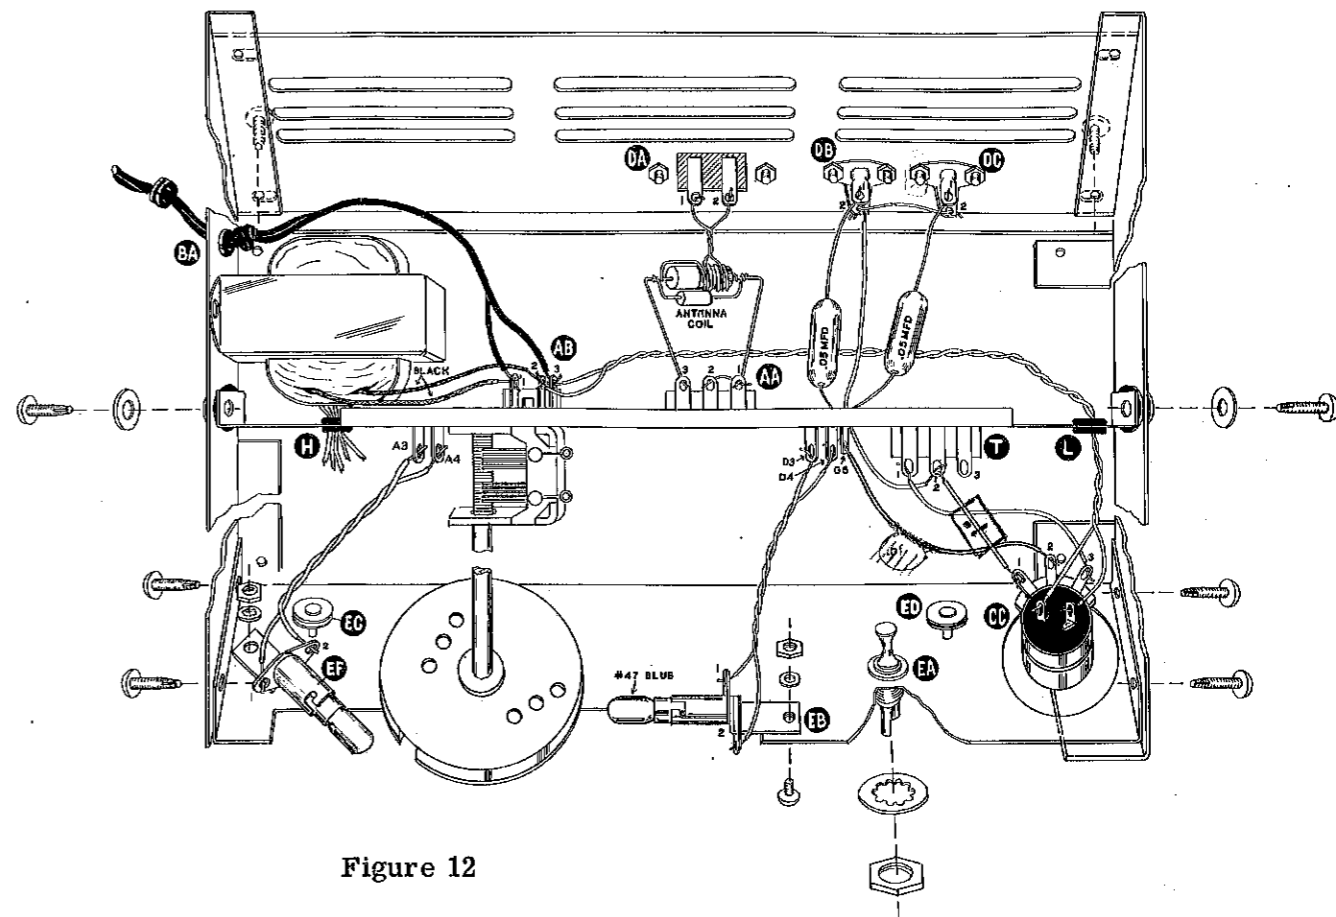
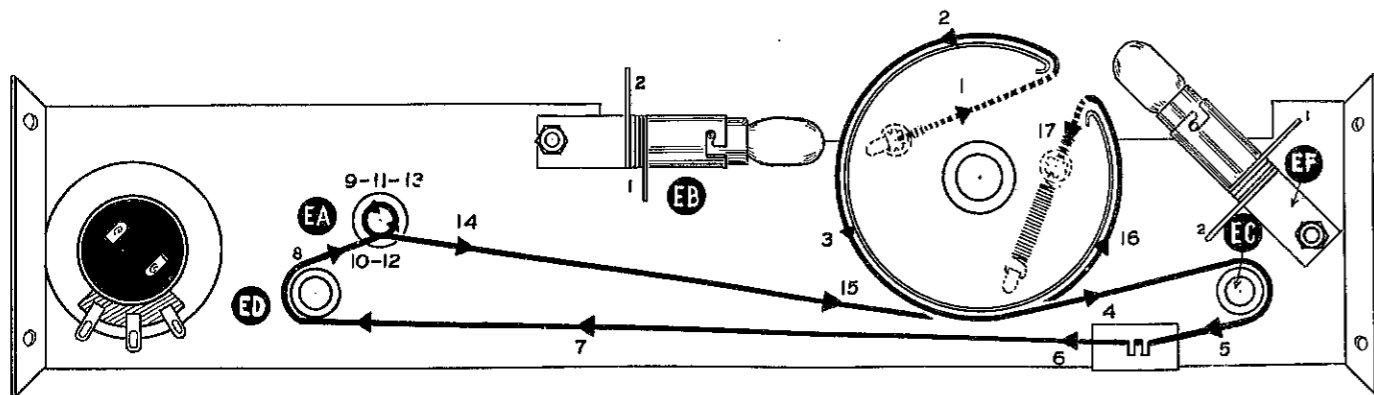

Figure 12
Figure 17
- (✓) Mount bracket B on the left or tuning condenser end of the chassis, with the transformer fitting over the chassis top as shown in Figure 12. Place a 9/16" washer on a 6-32 self-tapping screw and insert through the spacer previously installed in grommet BH. Line the screw up with the top chassis opening and secure the assembly. Before completely tightening the screw, start the second self-tapping screw and washer through the bottom opening BJ. Now tighten both screws.
- (✓) Install two 7/16" grommets in the large openings in the right hand bracket and insert the 3/16" metal spacers in each grommet. Install the bracket on the right hand end of the chassis in the same fashion. The large hole should be forward. See Figure 12.
- (✓) Place the red, red-yellow and green power transformer leads through grommet H on the chassis. Cut one green lead to length sufficient to reach socket A3, strip and tin the lead and connect it to A3 (NS).
- (✓) In the same fashion, connect the remaining green lead to socket A4 (NS).
- (✓) Cut two wires to a length of 3 1/2". Strip all four ends and twist together. At one end of the twisted pair, connect one lead to socket A3 (S) (3) and the other to A4 (S) (3).
- (✓) Connect the red-yellow lead to terminal strip M2 (S) (1).
- (✓) Connect a red lead to socket A1 (S) (1). Dress over the socket to keep this lead above the chassis edge.
- (✓) In the same manner, connect the remaining red lead to socket A6 (S) (1).
- (✓) On top of the chassis, connect one black transformer lead to terminal strip AB1 (NS). See Pictorial 2.
- (✓) Connect the remaining black lead to terminal strip AB2 (NS).
- (✓) Mount pilot lamp socket EF on the dial plate with 6-32 hardware. Observe Figure 12 and 17.
- (✓) Mount the dial plate as shown in Figure 12, with the long cut-out facing upward. Secure with 6-32 self tapping screws in the four foremost holes in the end brackets.
- () Install the back plate with the bent flange to the bottom. Use 6-32 self-tapping screws in the bottom holes at each end only, as shown in Figure 12.
- () Connect one of the twisted leads of the antenna coil to terminal strip DA1 (S) (1) and the remaining lead to DA2 (S) (1).
- () Connect a bare wire from connector ground lug DB2 (NS) to connector ground lug DC2 (S) (1).
- () Connect the insulated wire appearing through chassis grommet K to connector ground lug DB2 (S) (2).
- () Connect the free lead of the .05 μ fd 400 volt condenser previously bent toward socket B to connector DB1 (S) (1).
- () Connect the free lead of the remaining .05 μ fd 400 volt condenser to connector DC1 (S) (1).
- (✓) Mount the drive shaft assembly through the dial plate from the rear at location EA. Refer to Figure 12 and note that the bushing goes through the dial plate, a large lockwasher and a control nut. Tighten securely.
- () Identify the two wires previously connected to socket D3 and D4. Connect one wire to pilot light socket EB1 (S) (1) and the other to EB2 (S) (1).
- () Identify the two wires previously connected to socket A3 and A4. Connect one wire to pilot light socket EF1 (S) (1) and the other to EF2 (S) (1).
- (✓) Observe Figure 17 and install the dial cord assembly. Begin by hooking one of the eyelets over the ear provided on the tuning drum. Run the cord counterclockwise around the pulley (looking from the back of the tuner), around idler pulley EC, across the dial plate to idler pulley ED, around drive shaft EA 3 turns and back to the bottom side of the drum. Bring the cord counterclockwise around the drum and through the opening. Hook the dial cord spring on the remaining ear on the drum and the other end of the spring to the eyelet on the dial cord.